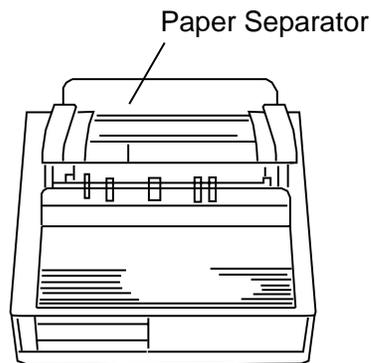

Figure 6-9. Model 602 Paper Separator
- 11.3. Grasp the front edge of the paper separator and pull up to access the tractors. See Figure 6-9.